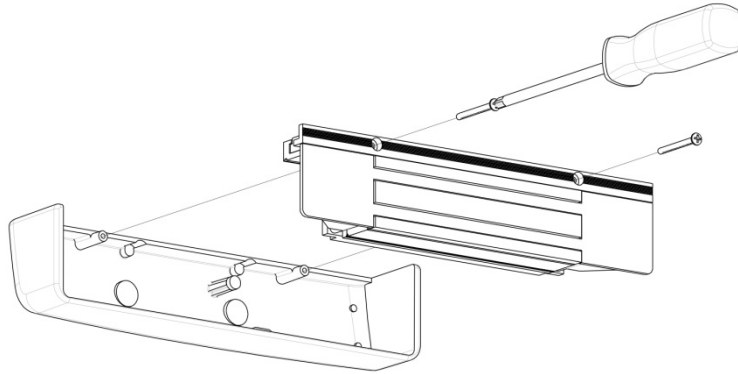

Figure 1. Removing the Cover Screws
1. Using a Phillips screwdriver, REMOVE the two (2) screws securing the cover, as shown in Figure 1, "Removing the Cover Screws."